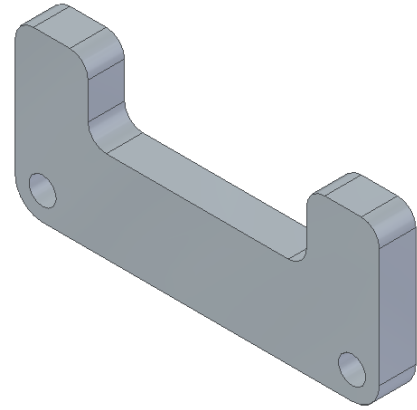

Figure 2-53 The final extruded model
4. Enter **20** in the edit box and press Enter; the extruded feature is created, as shown in Figure 2-53.